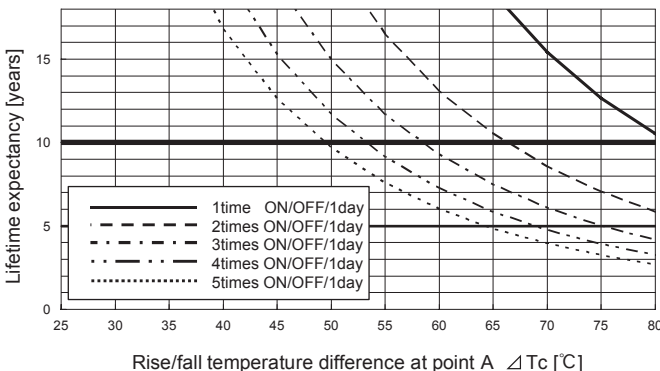

Fig. 12.1 Lifetime expectancy against rise/fall temperature difference
- Product lifetime expectancy depends on case temperature difference (ΔT_c) and number of cycling in a day is shown in Fig. 12.1 (It is calculated based on our accelerated process test result.)
- The warranty period is basically 10 years, however it depends on the lifetime expectancy which is shown in Fig. 12.1 if it is less than 10 years.